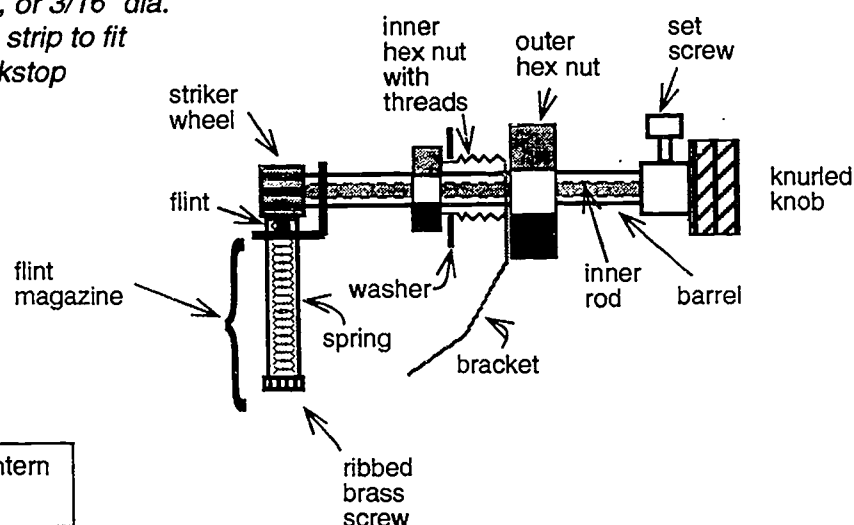

Figure 1. A lantern lighter.
3. Before proceeding, examine the lantern lighter. Refer to Figure 1 above. Notice the striker wheel that rotates and rubs against the vertical brass rod (the flint magazine) when you turn the knurled knob that is held in place by a set screw. If you rotate the knob very sharply, a spark should appear at the striker wheel.